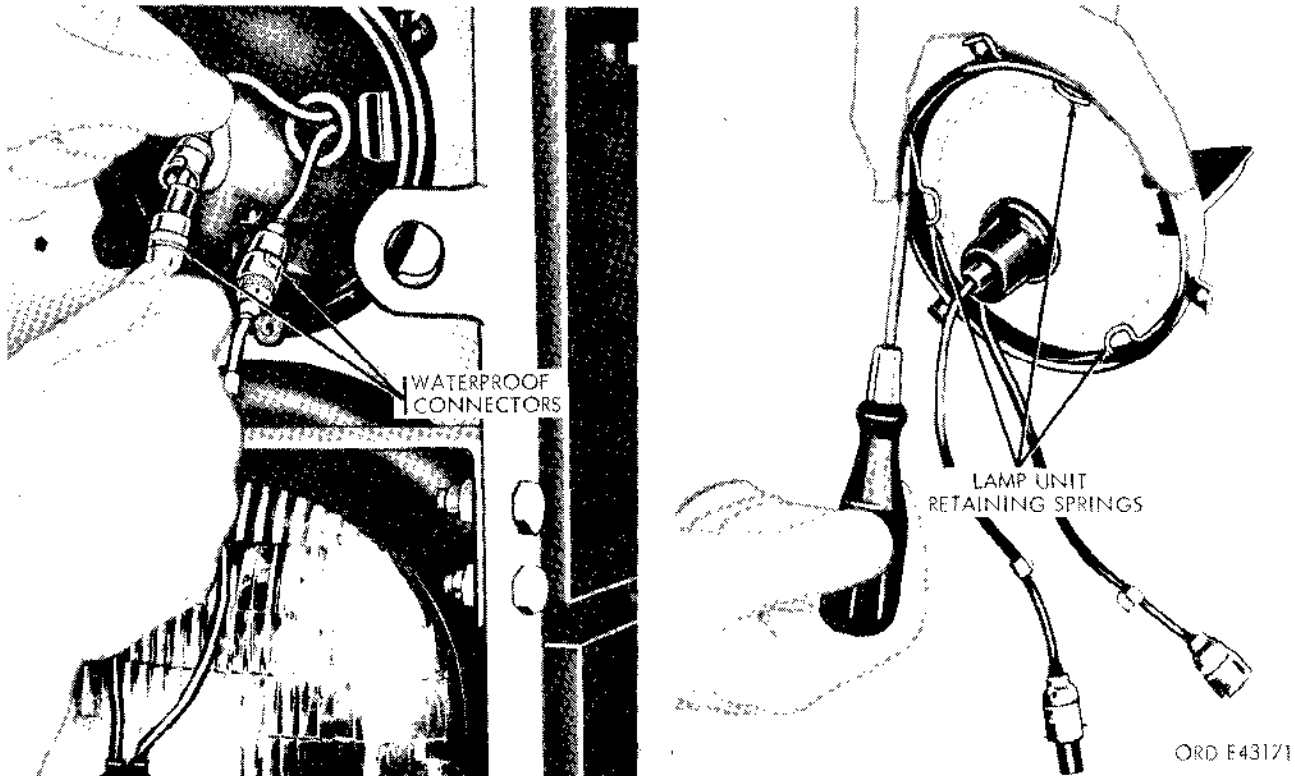

Figure 2-160. Removing blackout driving light sealed-beam lamp unit.
- (3) Disconnect the waterproof connectors (fig. 2-160).
- (4) Remove the three lamp unit retaining springs (fig. 2-160), and remove the lamp unit from the door.
(1) Position the sealed-beam lamp units in the blackout driving light door (cover), and secure them with the three retaining springs (fig. 2-160).
(2) Connect the lamp unit cables to the wiring harness cables (fig. 2-160), and fasten the cable connectors in the connector clips (fig. 2-159).